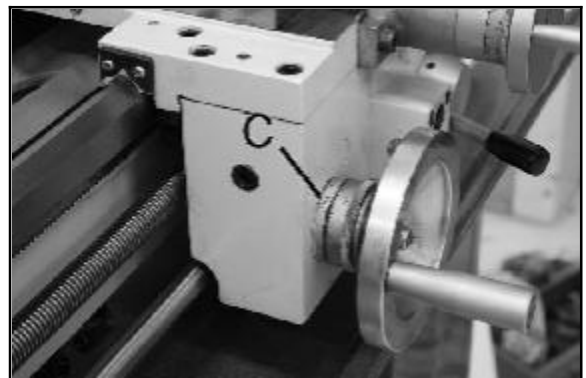

Figure-45 Cross slide hand wheel oil port
To drain the oil, remove the drain plug on the left side of headstock. See figure-45. Drain completely and refill after first three months of operation. Then, change oil in the headstock annually.
Lubricate the oil port (C) on the cross slide hand wheel shown in figure-45 with 20w machine.